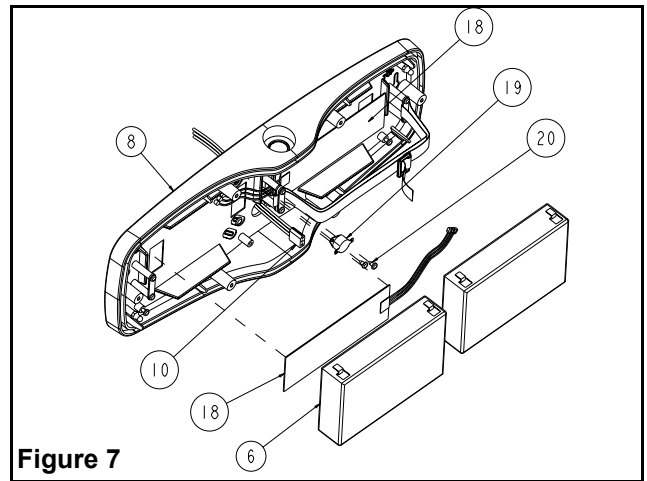

Figure 7
- a. Connect battery heater to thermostat (19) and to AC harness (10) (see figure 7).